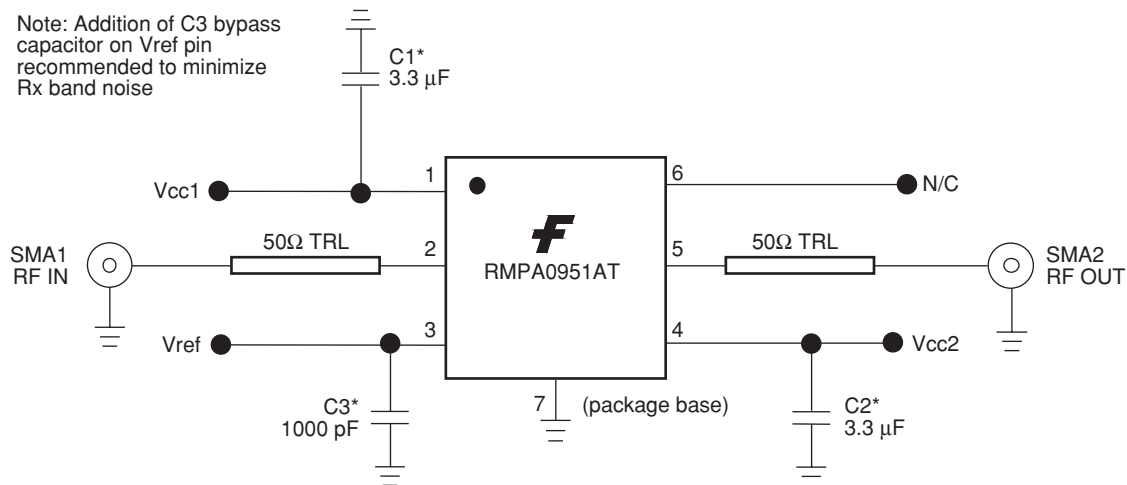

Figure 4. Evaluation Board Schematic
- **Cooling Zone:** Steep thermal gradients may give rise to excessive thermal shock. However, rapid cooling promotes a finer grain structure and a more crack-resistant solder joint. Figure 4 indicates the recommended soldering profile.